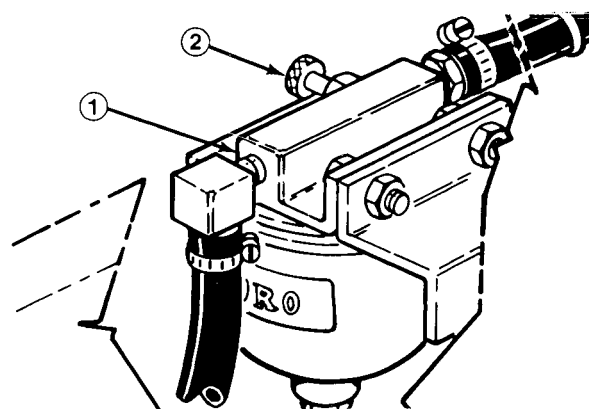

Figure 27
2. Loosen air bleed screw on top of fuel filter/water separator (Fig. 27).